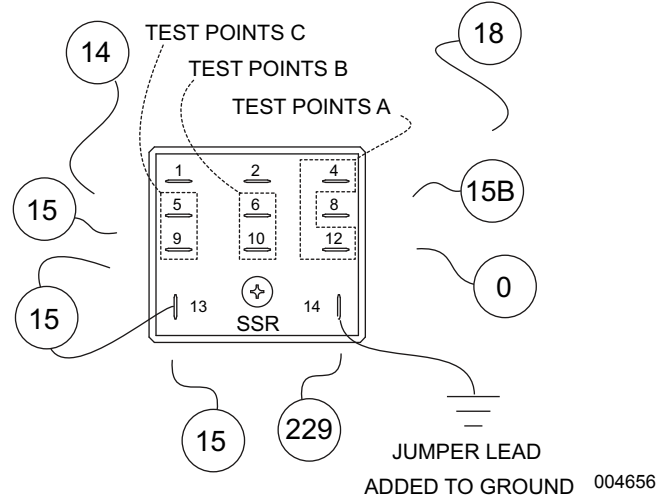

Figure 4-42. Start Stop Relay (SSR) Energized
14. See **Figure 4-42**. Remove wire 229 from the SSR.